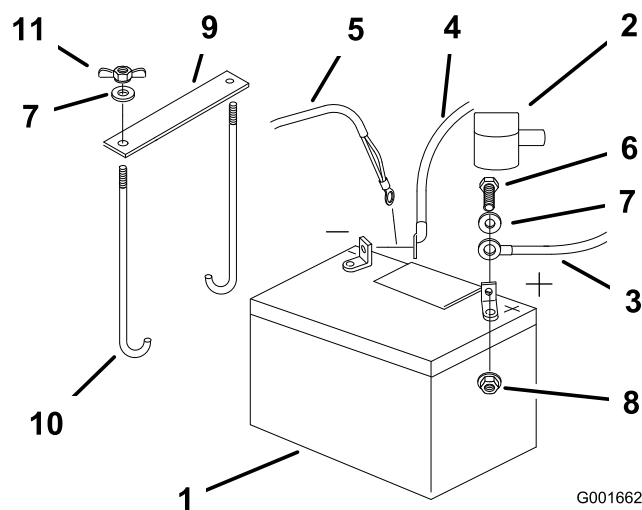

Figure 47
4. First disconnect the negative battery cable and ground wire from the negative (-) battery terminal (Figure 47).
5. Slide the red terminal boot off the positive (red) battery terminal. Then remove the positive (red) battery cable (Figure 47).
6. Remove both wing nuts (1/4 inch) securing the battery clamp (Figure 47).
1. Position battery in the tray with the terminal posts toward the engine (Figure 47).
4. Secure the cables with 2 bolts (1/4 x 3/4 inch), 2 washers (1/4 inch), and 2 locknuts (1/4 inch) (Figure 47).
- Secure battery with J-bolts, hold down clamp and 2 washers (1/4 inch), and 2 wing nuts (1/4 inch) (Figure 47).